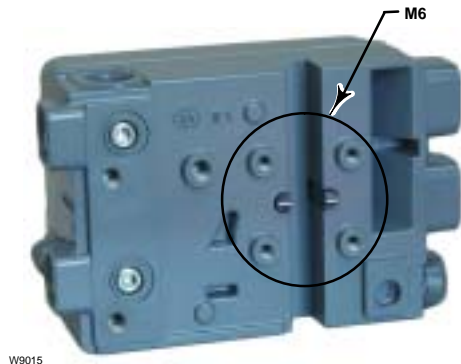

Figure 2-13. DVC2000 Rotary Mounting Holes
3. Attach the digital valve controller to the mounting bracket using the 4 mounting bolts, as shown in figure 2-13.